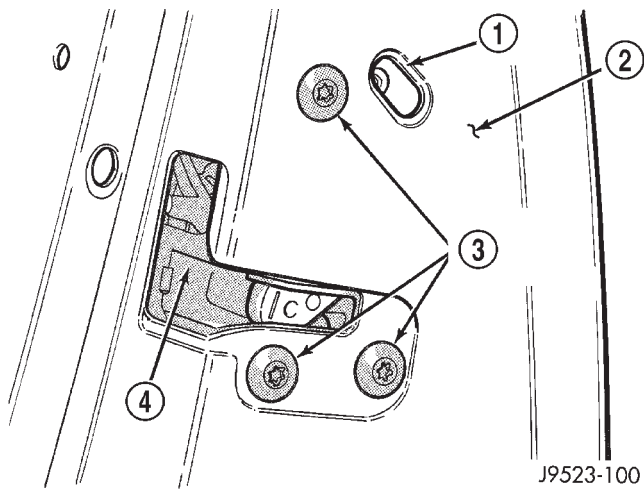

Fig. 11 Door Latch Adjustment
- (1) Locate access hole (Fig. 11).
- (2) Insert a 5/32-inch hex-wrench through hole and into adjustment screw. Loosen screw.
- (3) Operate outside handle button several times to release any restriction because of mis-alignment.
- (4) Tighten adjustment screw to 3 N·m (30 in-lbs) torque.
- (5) Test handle button and lock cylinder for proper operation.